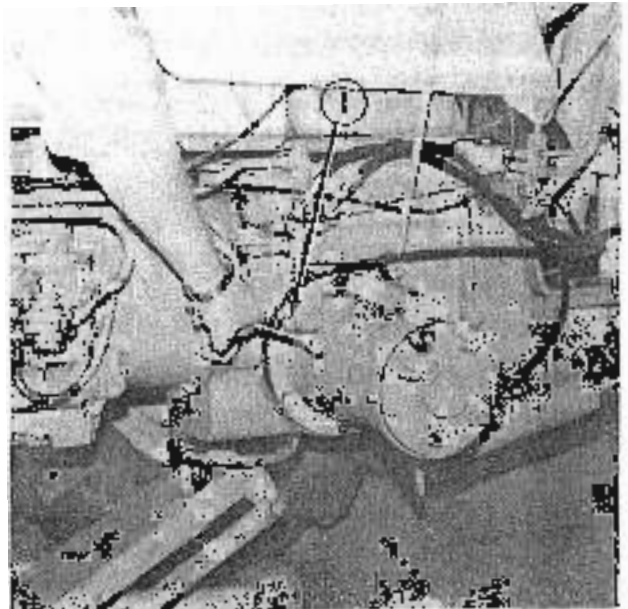

FIG. 2
Remove the (6) 10 x 30 mm. bolts attaching the axle casting to the transmission case. (2, Fig. 2)